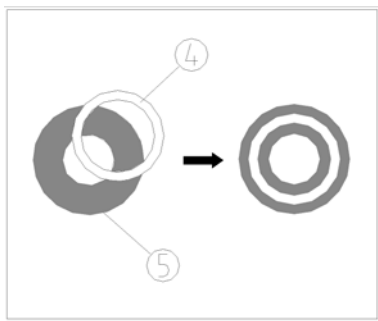

Fig. 28
- (6) Use the phase contrast ring adjusting levers ③ to center the halo ④ with the phase ring ⑤ (Fig.28).
- (7) Remove the CT, and insert the eyepiece.
- (8) Repeat the above steps for all magnifications.